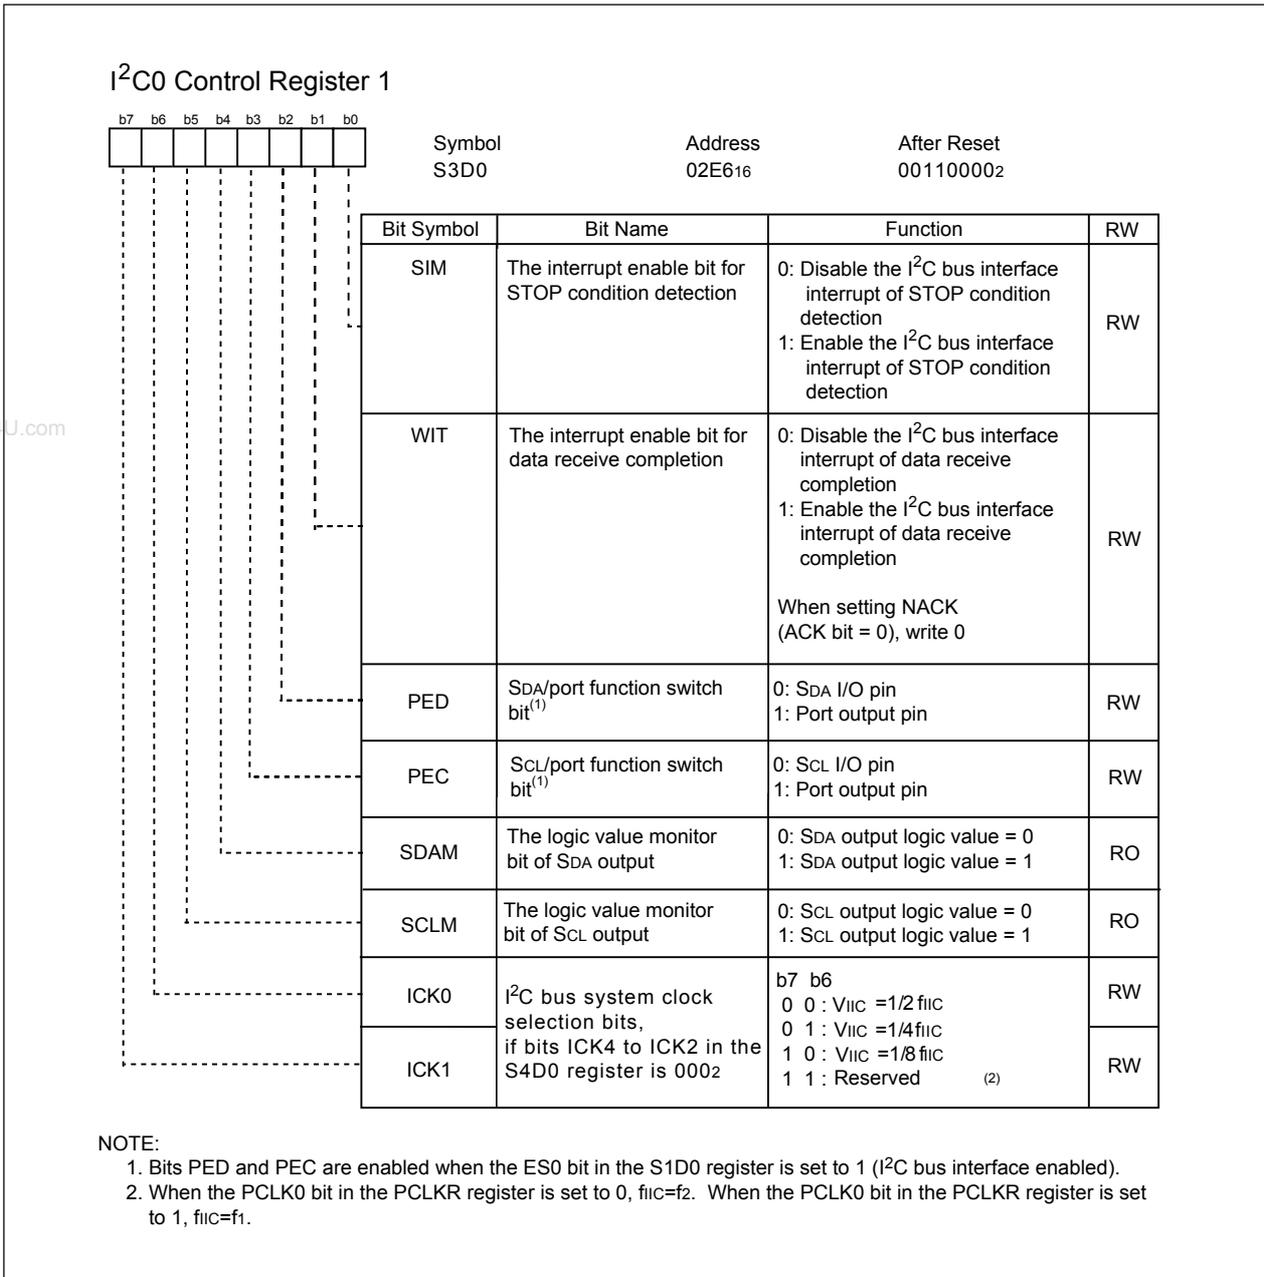

Figure 16.6 S3D0 Register
- Each value of the SCL frequency exceeds the limit at V_{IIC} = 4 MHz or more. When using these setting values, use V_{IIC} = 4 MHz or less. Refer to **Figure 16.6**.